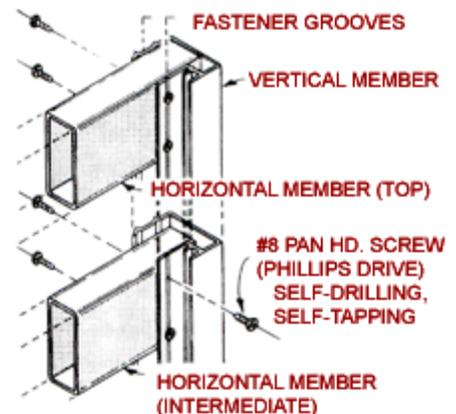

FIGURE 4
4.) After squaring secure the grid with a second fastener at each of the four corners locating them as shown in Fig. 4